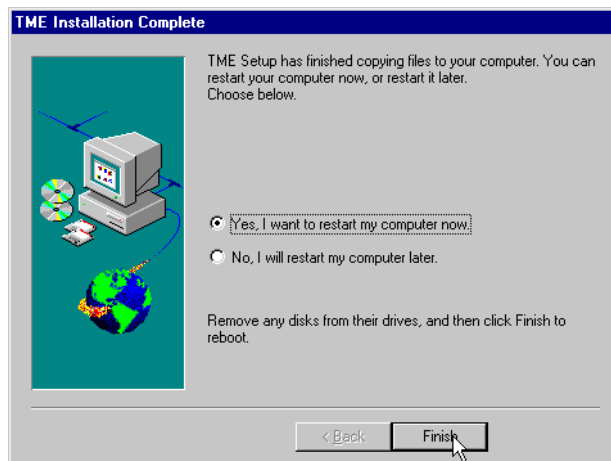

Figure 24. TME Installation Complete
14. Select **Yes** in the window, shown in Figure 24, to restart your computer and then log in as Administrator user.